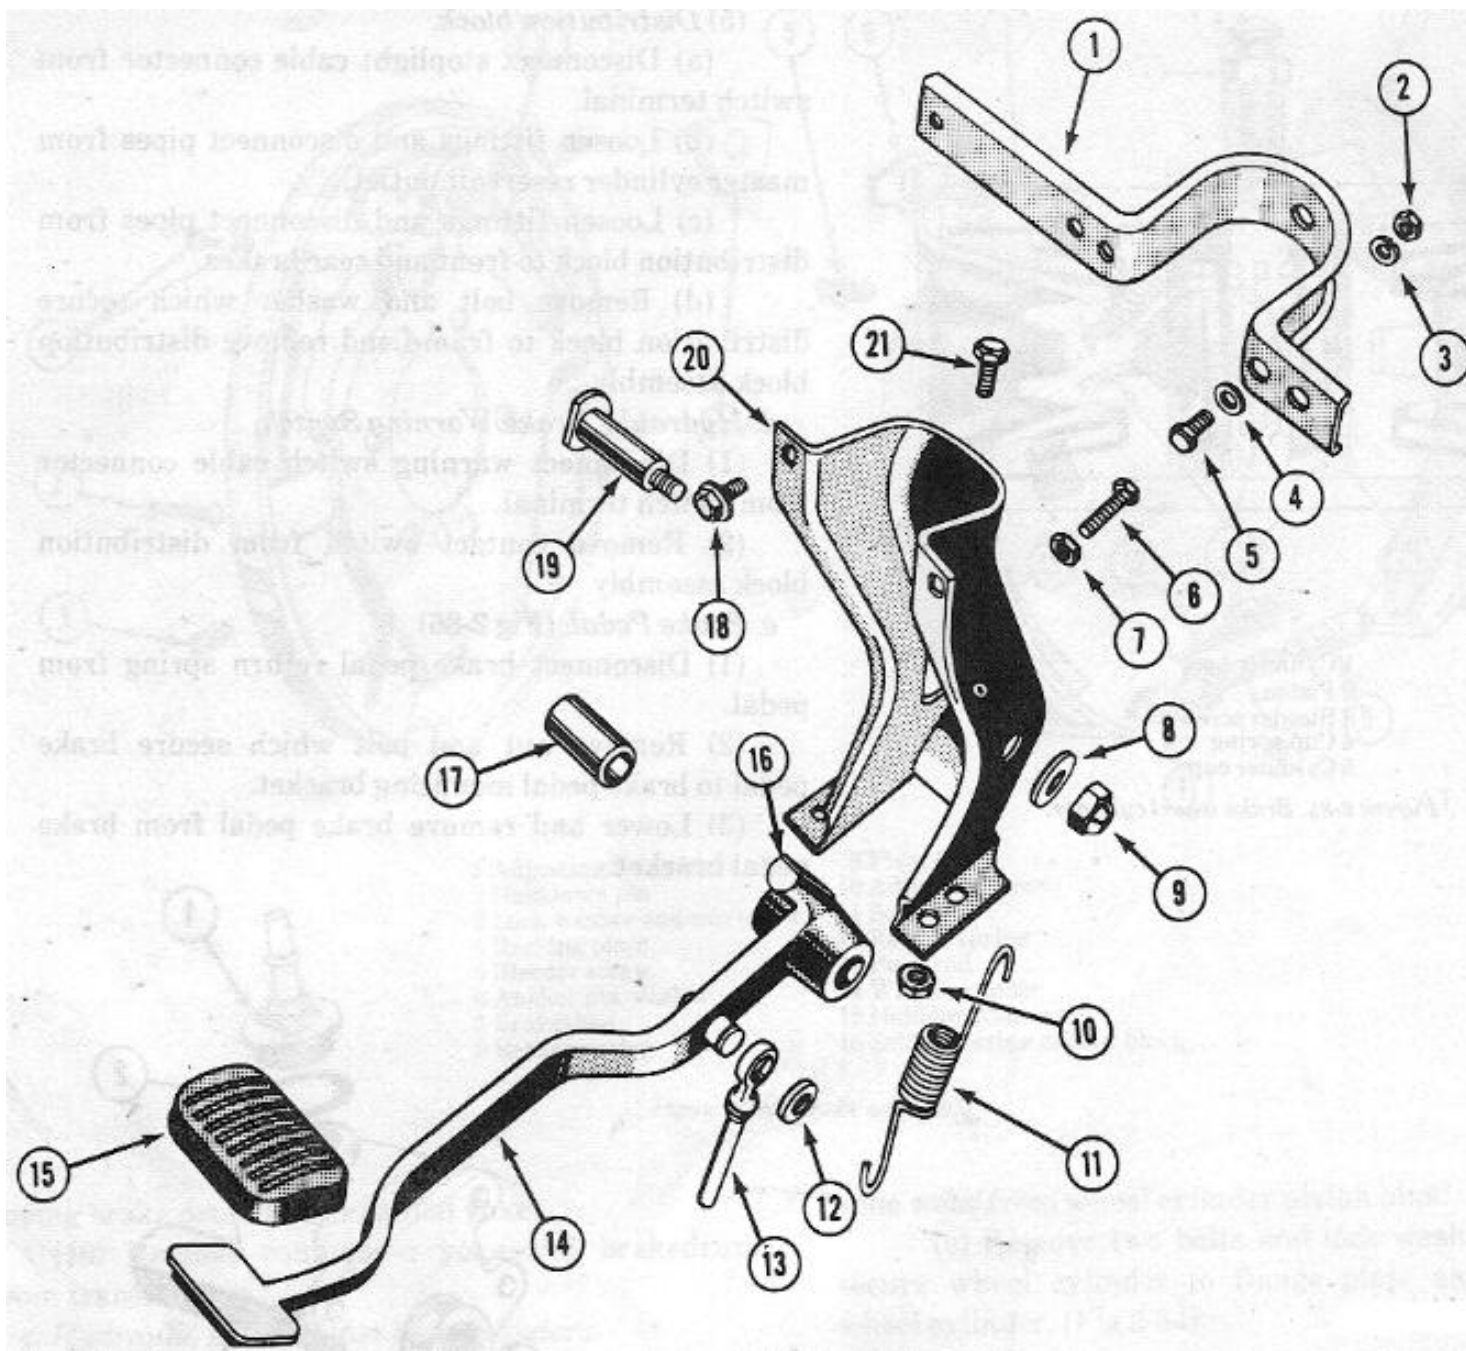

Figure 2-86. Brake pedal, mounting and adjusting parts.
e. Brake Pedal Adjustment (Fig 2-86)
- (1) Loosen adjusting bolt lock nut (7 fig 2-86) installed through the brake pedal mounting bracket (20 fig 2-86).
- (2) Adjust the adjustment bolt so that free travel measured at the center of pedal pad is ½-inch. Turn adjusting bolt (6 fig 2-86) clockwise to decrease free pedal travel and counter-clockwise to increase free pedal travel.
- (3) Tighten lock nut on adjusting bolt and recheck free travel.
(1) Disconnect warning switch cable connector from switch terminal.
(2) Remove contact switch from distribution block assembly.
e. Brake Pedal. (Fig 2-86)
(1) Disconnect brake pedal return spring from pedal.
(2) Remove nut and bolt which secure brake pedal to brake pedal mounting bracket.
(3) Lower and remove brake pedal from brake pedal bracket.